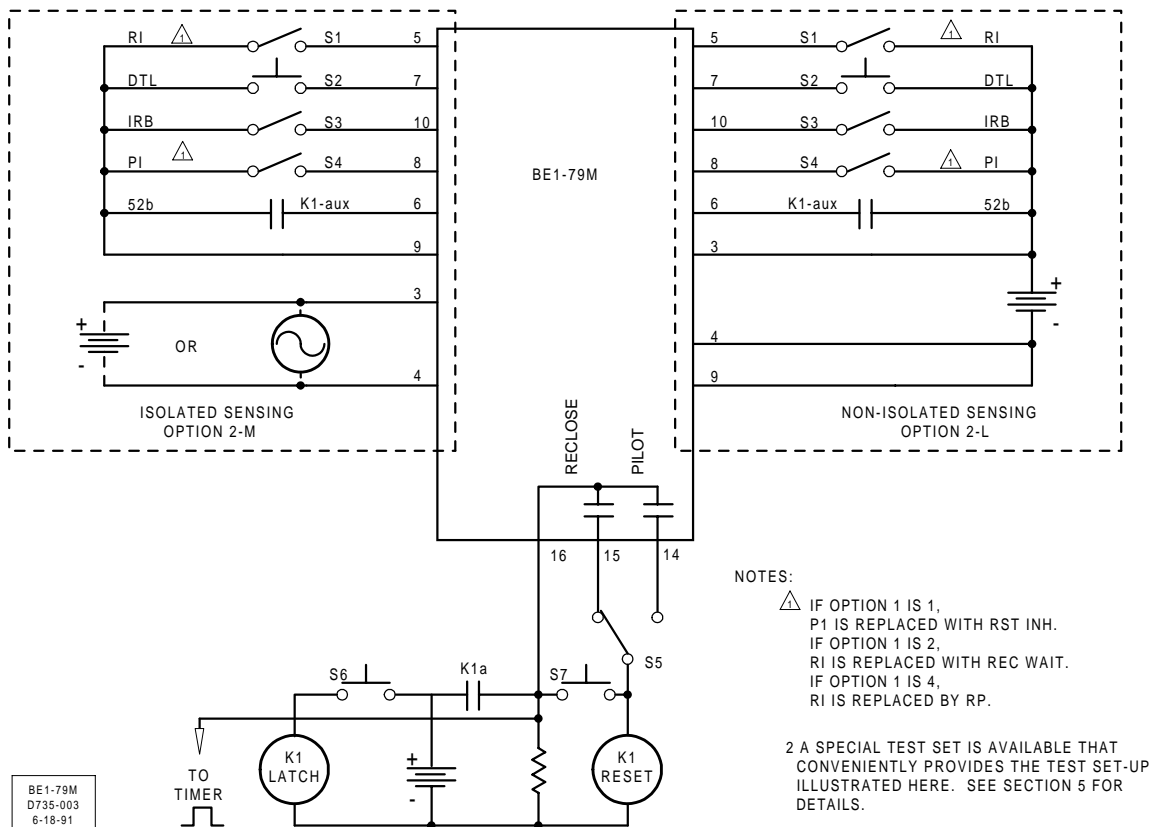

Figure 5-1. Operational Test Setup
Minimum test equipment required for relay testing and adjustment is listed below. Refer to figure 5-1 for the test setup.
**STEP 1.** Connect the circuit as shown in Figure 5-1. K1 is a latching relay with a set of Form B auxiliary contacts to simulate a controlled breaker. If the Pilot Initiate option is not present, S4 and the connections to terminals 8 and 14 are not needed.